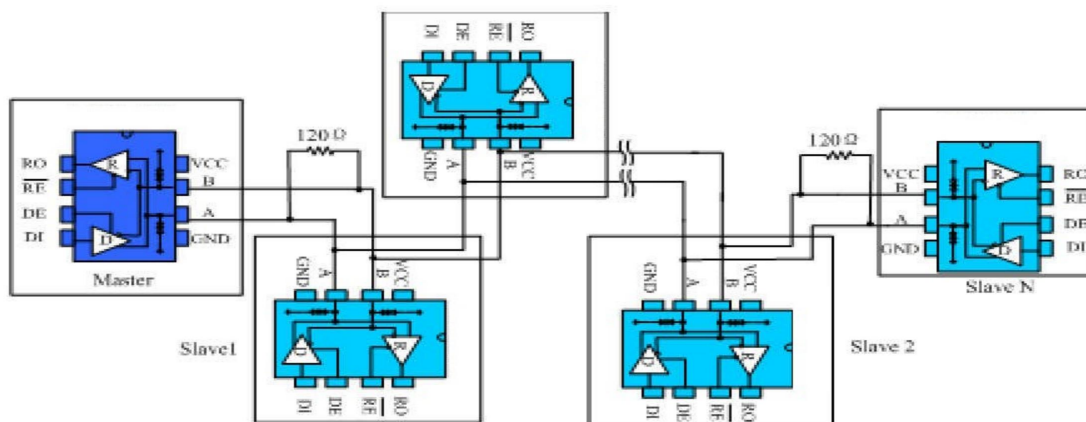

Fig. 10 Hand-in-hand type RS485 half-duplex communication network
**4.2 Hand-in-hand networking:** Also known as daisy chain topology, it is the standard and specification of RS485 bus wiring, and is the RS485 bus topology recommended by organizations such as TIA. The wiring method is that the master control device and multiple slave devices form a hand-in-hand connection, as shown in Figure 10, the hand-in-hand way is to leave no branches. This wiring method has the advantages of low signal reflection and high communication success rate.